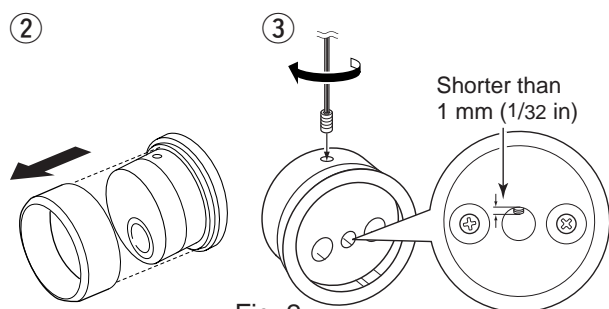

Fig. 2
- ② Remove the rubber cover of the main dial (Fig. 2).
- ③ Insert the main dial set-screw into the screw hole of the main dial, then tighten the screw until the screw extends into the shaft hole out slightly using supplied hexagonal wrench (2 mm) (Fig. 2).